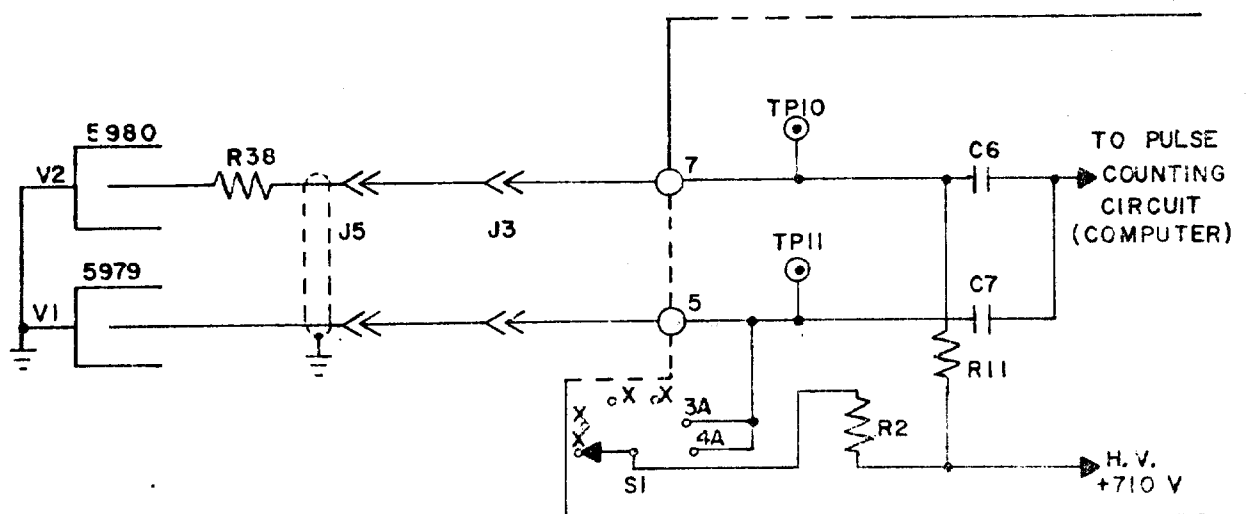

FIGURE 6-3. RADIATION DETECTORS
b. Radiation Detectors (Refer to Figure 6-3). The 710 volt power supply output supplies power to the two Geiger tubes, V1 and V2 through the range switch S1. The contacts of the range switch are connected to supply voltage to V1 only in the 0.5 mR/hr and 5.0 mR/hr ranges while V2 is energized at all times (on all four ranges).